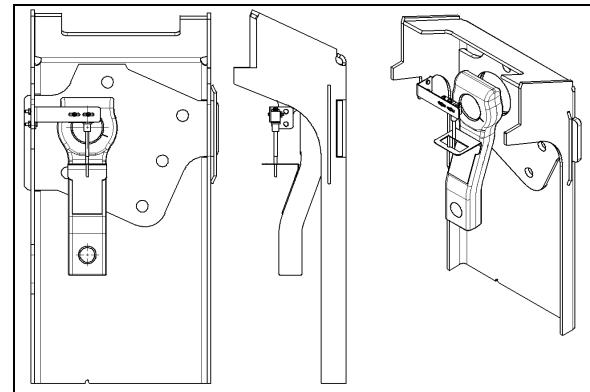

FIGURE 21: TAG AXLE UNLOADING SWITCH ADJUSTMENT 14061
2. Line up switch lever with reference to the bracket center (Refer to figure 21).